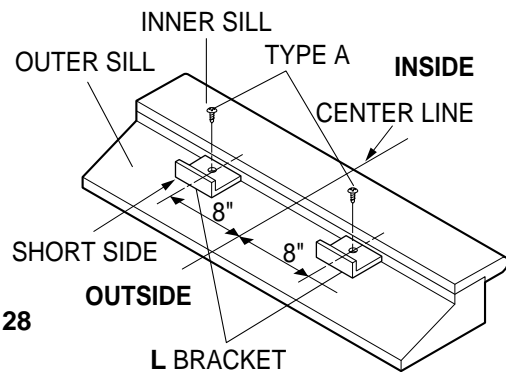

Figure 28
- Carefully lift the air conditioner and slide it into the open window. Make sure the bottom guide of the air conditioner drops into the notches of the L bracket. See Figure. 28.